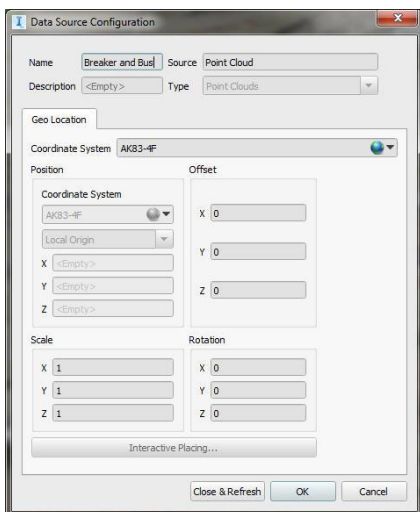

Figure 18: Configure Point Cloud
- Choose the coordinate system or manually modify the insertion information (Figure 18), your point cloud should become visible and you can verify it's insertion and location